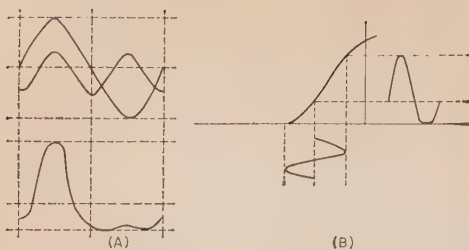

Fig. 7 — An illustration of how second harmonic distortion is produced by clipping and how it affects the wave-form.
The illustration in fig. 7 will help you in understanding the action of harmonics in vacuum tubes. Consider the top diagram (A) first. It shows two frequencies, a sine wave and its second harmonic. Just below the two frequencies is the waveshape produced by adding the two graphically. Notice that the sum is a distorted waveshape of the sine wave in which there is a large positive half cycle and a small negative cycle. The bottom diagram (B) shows similar results in which a harmonic generated in a vacuum tube is added to the signal frequency (fundamental) and causes the amplitude of the output to be distorted. This action results from operating the tube on the curved portion of the  $E_c-I_o$  curve. Here too, the output wave has a large positive half cycle and a small negative half cycle, a condition evidencing distortion. The output waveshape contains both the original fundamental signal waveshape and the harmonic which was generated in the tube and added to the fundamental by tube action.
Yes. See fig. 7. This scheme used by many fishermen also works very successfully with
Fig. 7—Simple method of splicing wires securely without soldering; a handy item for Field Day operations. Both ends of wire are pulled tight with pliers for a good connection.